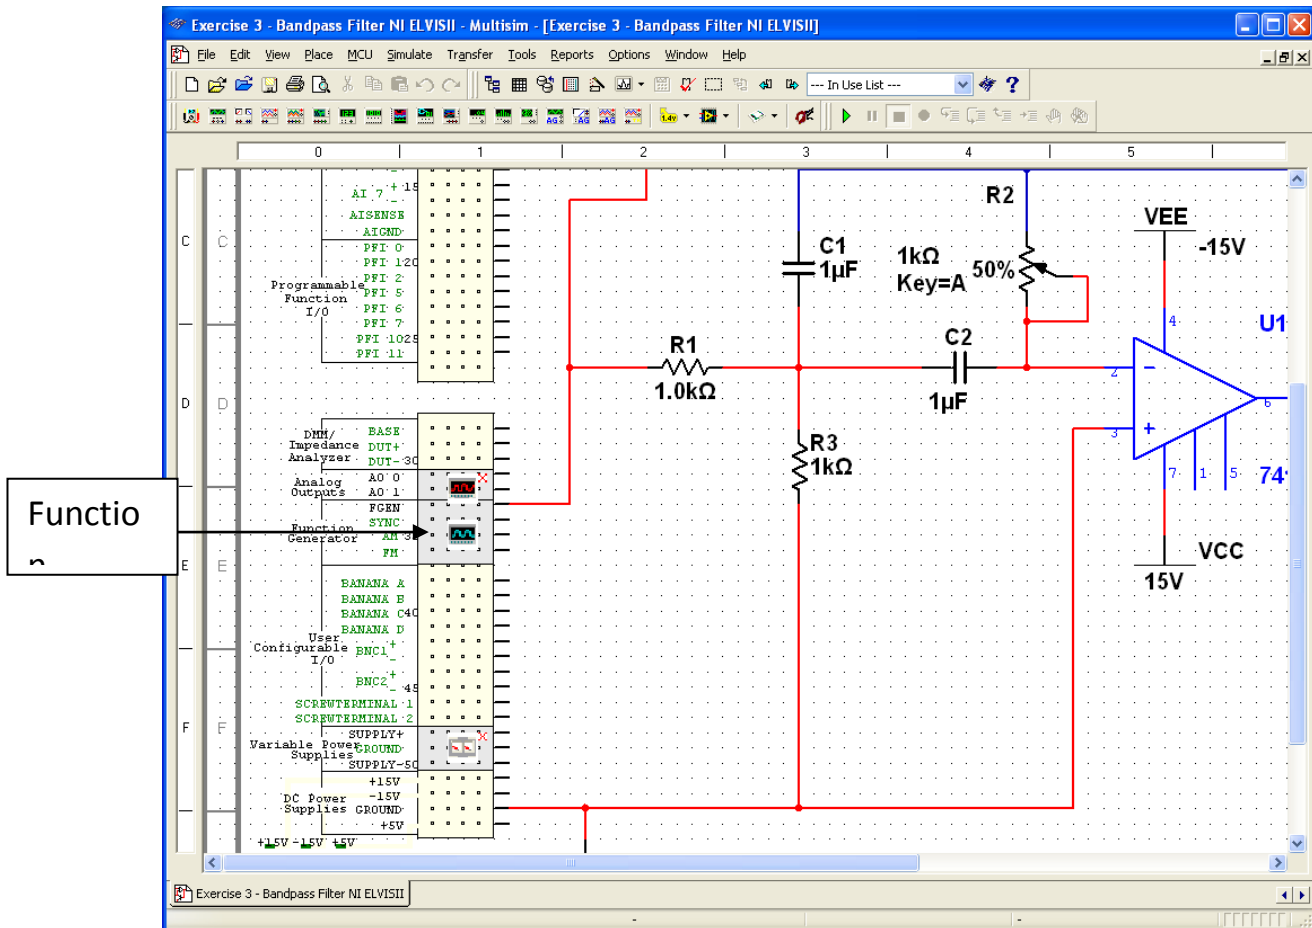

Figure E3-5. ELVISmx Virtual Oscilloscope
- d. Double click the function generator to bring up the function generator soft front panel. The function generator icon is shown in Figure E3-5.